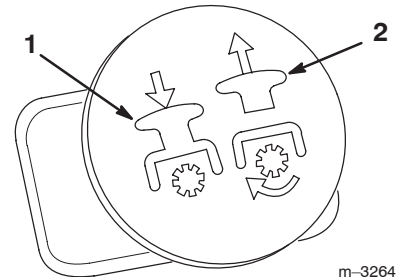

Figure 14
- Pull the PTO switch to the on position (Fig. 14).